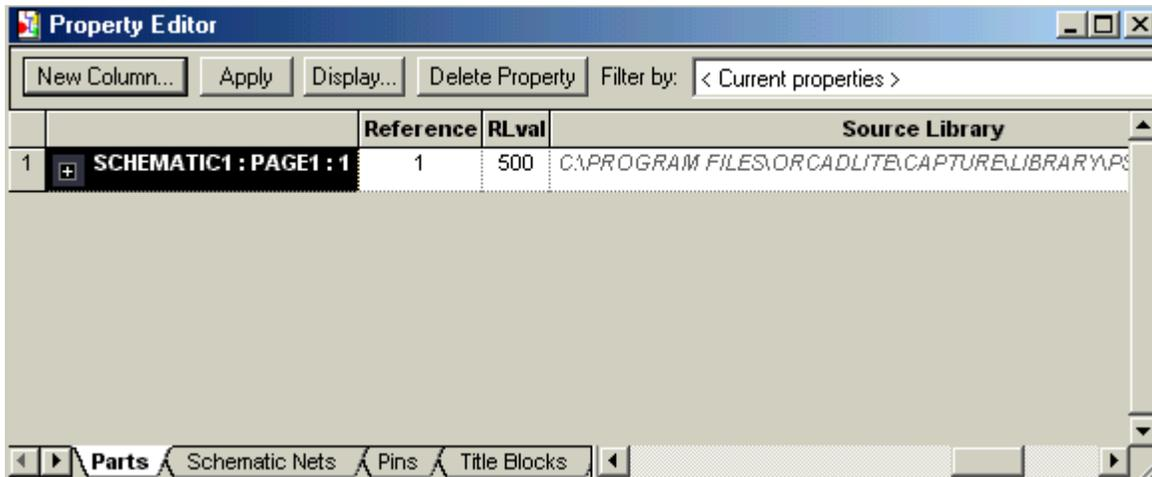

Figure 3.4.4: Property Editor window for the PARAM part, showing the newly created RLval column.
- You will notice that the new column  $Rlval$  has been created. Below the  $Rlval$  enter the initial value for the resistor: lets make it 500, as shown in Figure 3.4.4 below.